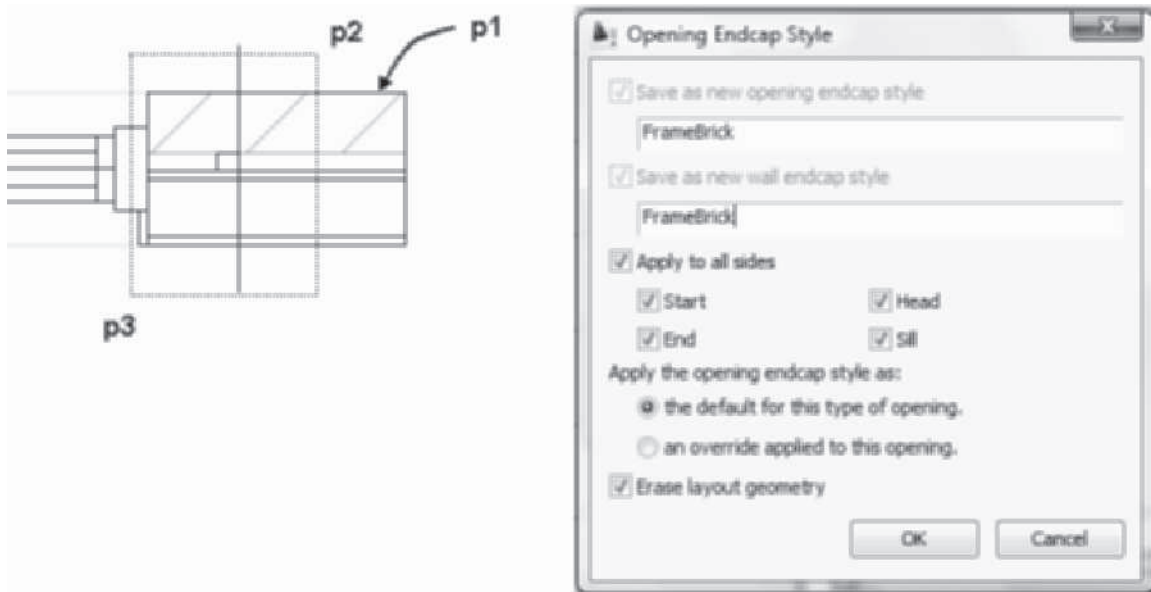

FIGURE 3.55 Polyline selected for FrameBrick endcap style
13. Select the wall at p1 as shown in Figure 3.55 and then select Calculate Automatically from the Endcap panel. Respond to the workspace prompts as follows:
Select polylines: (Select a point near p2 making a crossing window to p3 as shown in Figure 3.55.)
(Type FrameBrick in the Save as new opening endcap style and the Save as new wall endcap style field. Select the radio buttons and checkboxes as shown in Figure 3.55.)